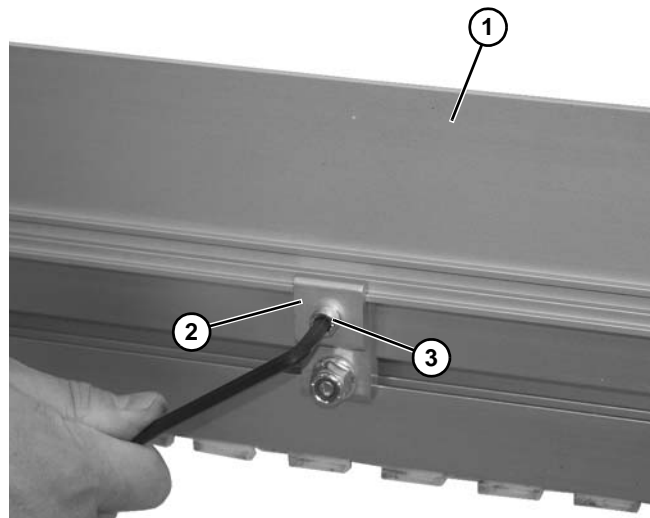

Figure 77
5. Install guide (Figure 77, item 1) and retaining clip (Figure 77, item 2) to conveyor side rail with socket head screw (Figure 77, item 3).